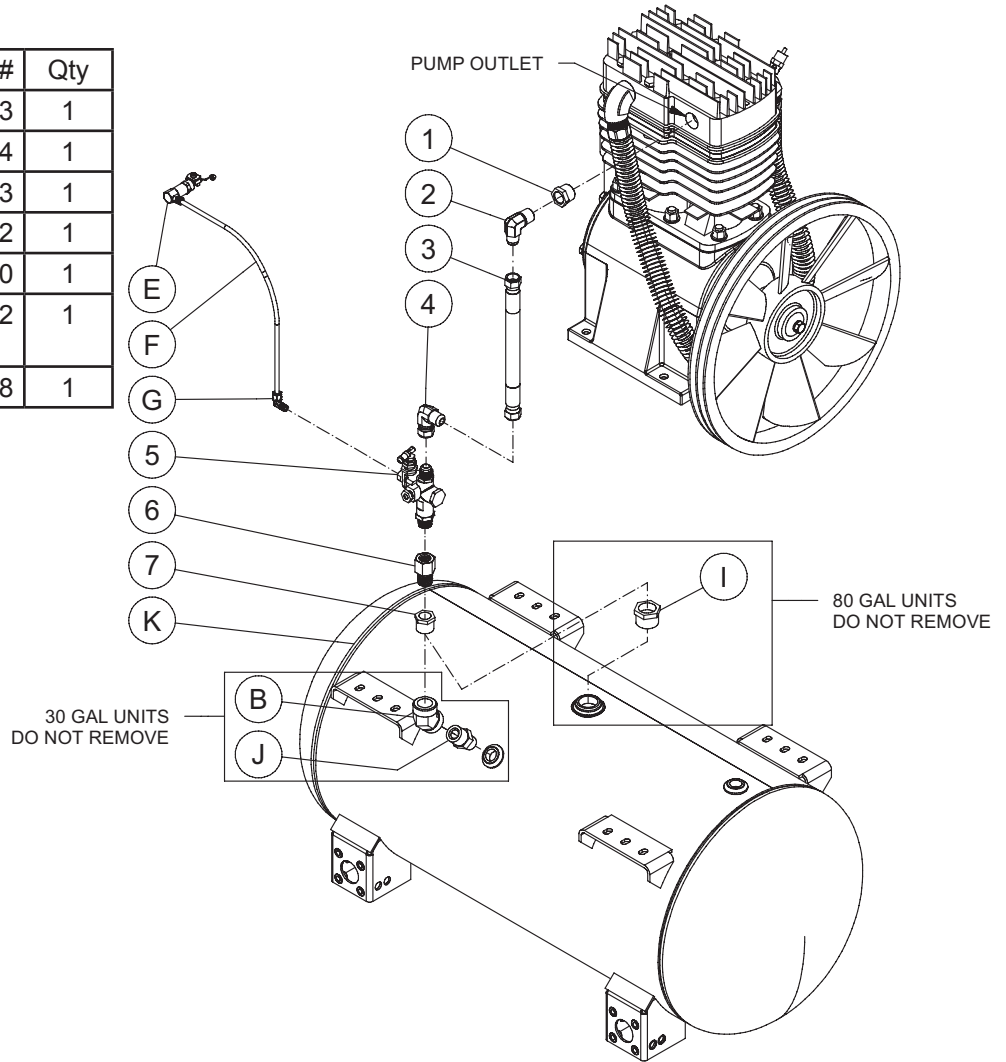

FIGURE 2 (NEW CONFIGURATION)
6. Installing new pilot valve (see figure 2 new configuration).